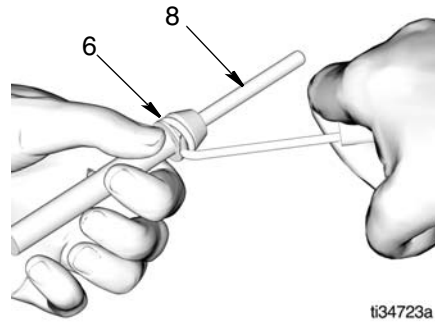

FIG. 9
15. Use a pick to remove o-ring (6) from indicator pin (8) (FIG. 9).